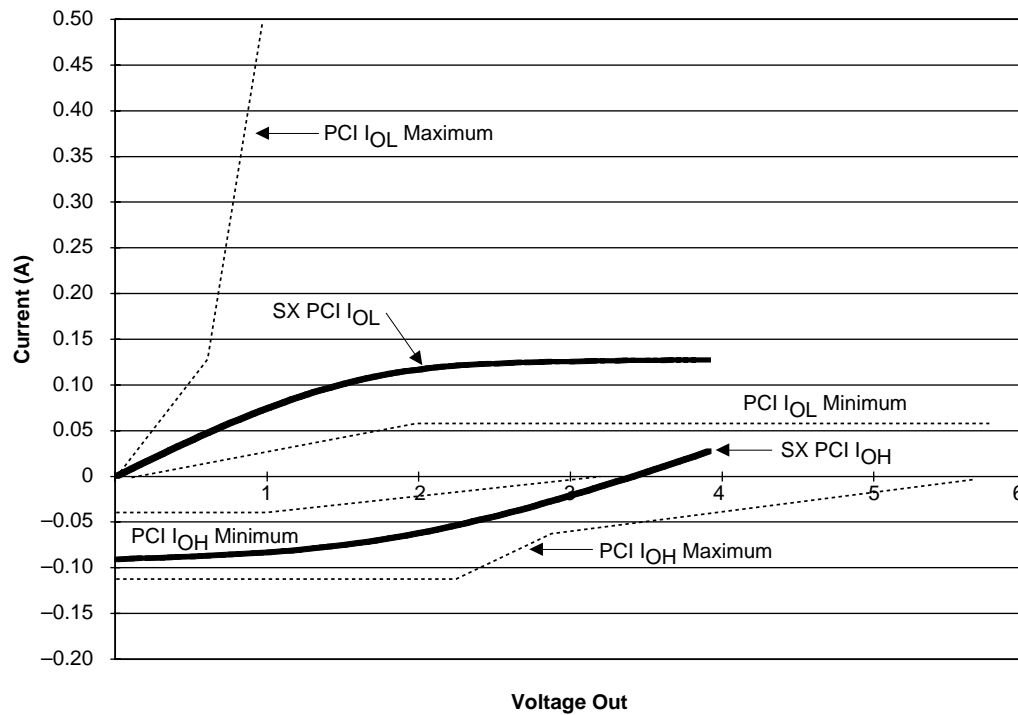

Figure 10 • 3.3V PCI Curve for SX-A Family
1. Refer to the V/I curves in Figure 10 on page 17. Switching current characteristics for REQ# and GNT# are permitted to be one half of that specified here; i.e., half size output drivers may be used on these signals. This specification does not apply to CLK and RST# which are system outputs. "Switching Current High" specification are not relevant to SERR#, INTA#, INTB#, INTC#, and INTD# which are open drain outputs.
2. Maximum current requirements must be met as drivers pull beyond the last step voltage. Equations defining these maximums (C and D) are provided with the respective diagrams in Figure 10 on page 17. The equation defined maxima should be met by design. In order to facilitate component testing, a maximum current test point is defined for each side of the output driver.
Figure 10 shows the 3.3V PCI V/I curve and the minimum and maximum PCI drive characteristics of the SX-A family.